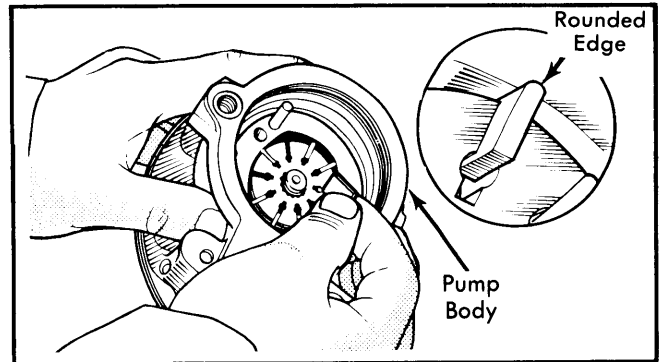

Fig. 9 Placing Vanes in Rotor Plate
3) Place vanes in rotor slot, making sure rounded edge of each vane faces outward (See Fig. 9). Coat pressure plate "O" ring with petroleum jelly and install in lowest groove in pump body.